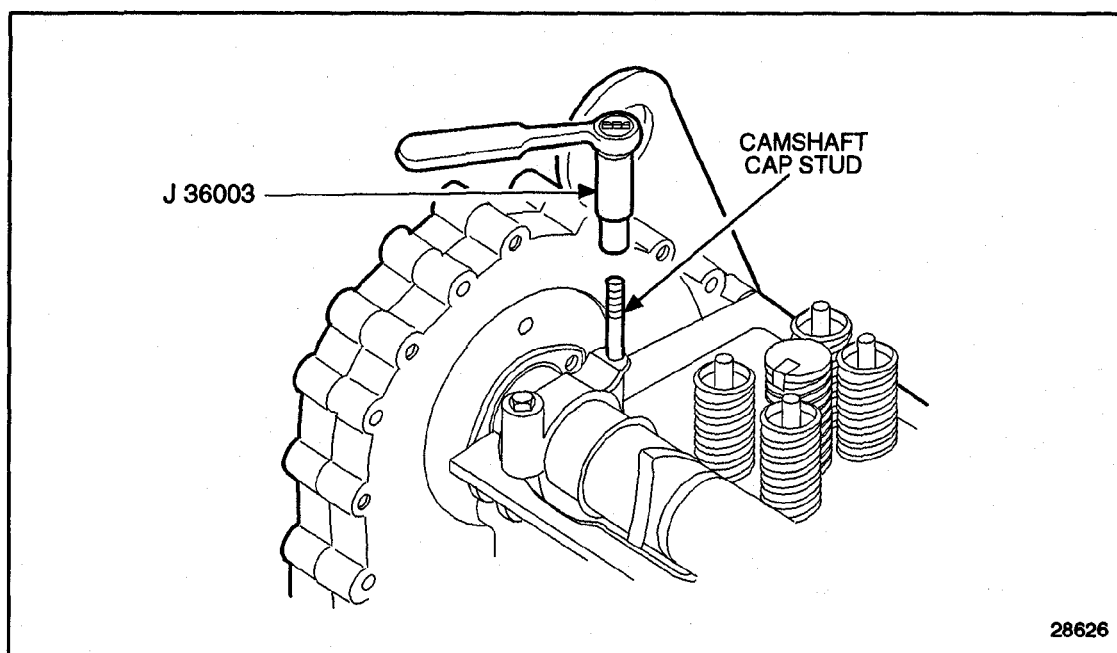

Figure 1-323 Removal of Camshaft Cap Stud
20. Remove the number 1 camshaft bearing cap using socket tool J 36003 part of J 36003-A . See Figure 1-323.